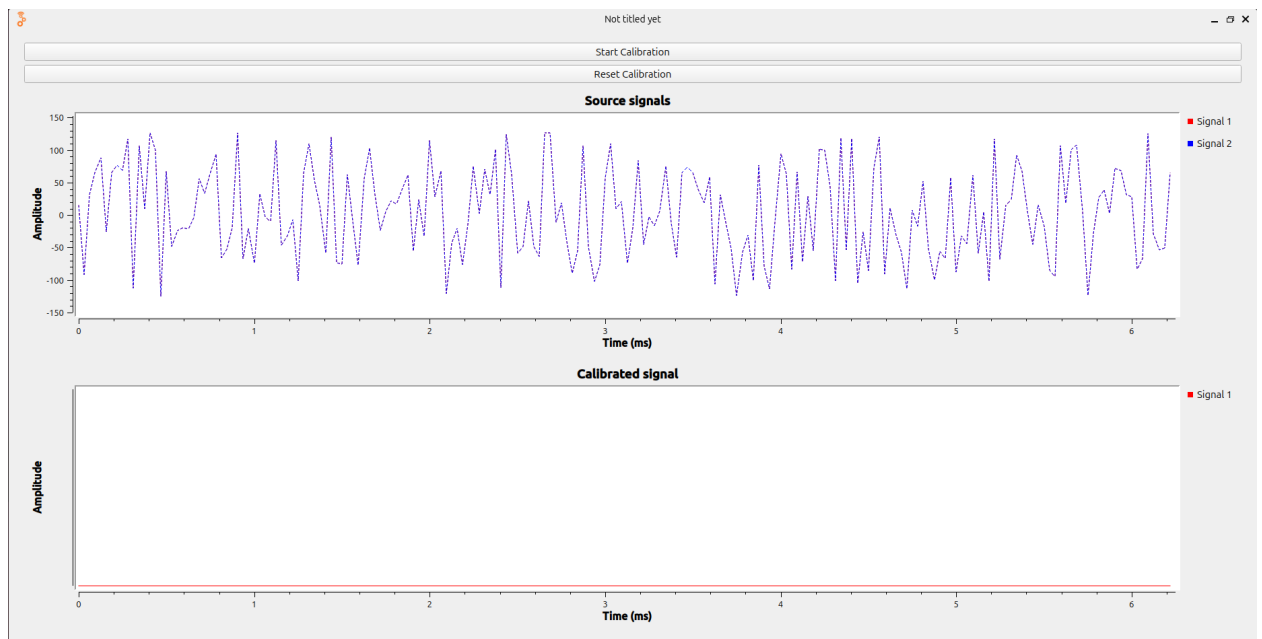

Figure 2
- On the "Source signals" Time Sink, the two waveforms (reference and compensated) become visually indistinguishable, perfectly overlapping each other, as shown in Figure 2
- Crucially, on the "Difference Signal" Time Sink, the output waveform becomes a flat line centered at or very close to zero (Figure 2, if you show the difference signal there, or a separate Figure for it). This visually confirms that the two signal paths are now synchronized, and their difference is effectively nullified.